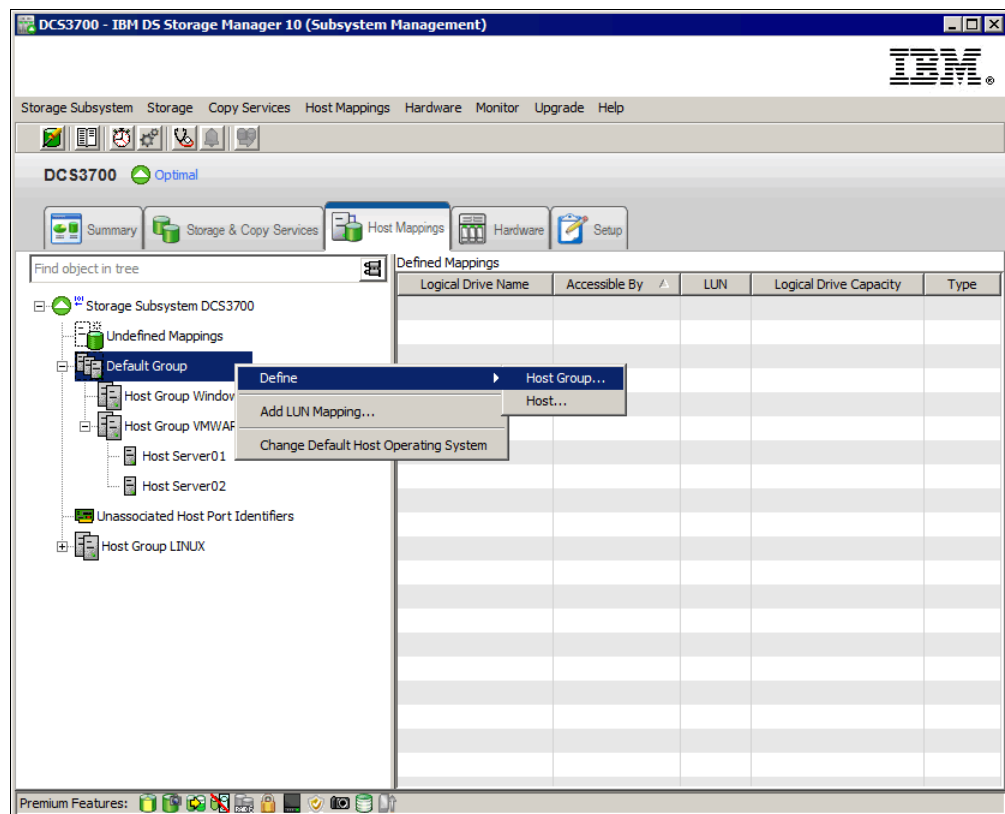

Figure 10-18 Define Host Group menu
1. Right-click Default Group and select **Define** → **Host Group**, as shown in Figure 10-18.